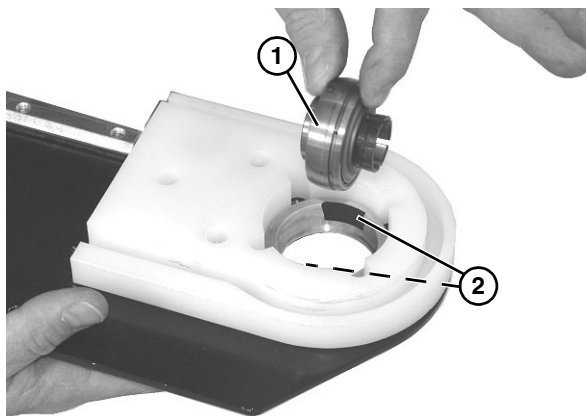

Figure 46
1. Turn bearing (**Figure 46, item 1**) to align with slots (**Figure 46, item 2**) in bearing housing. Then remove bearing.